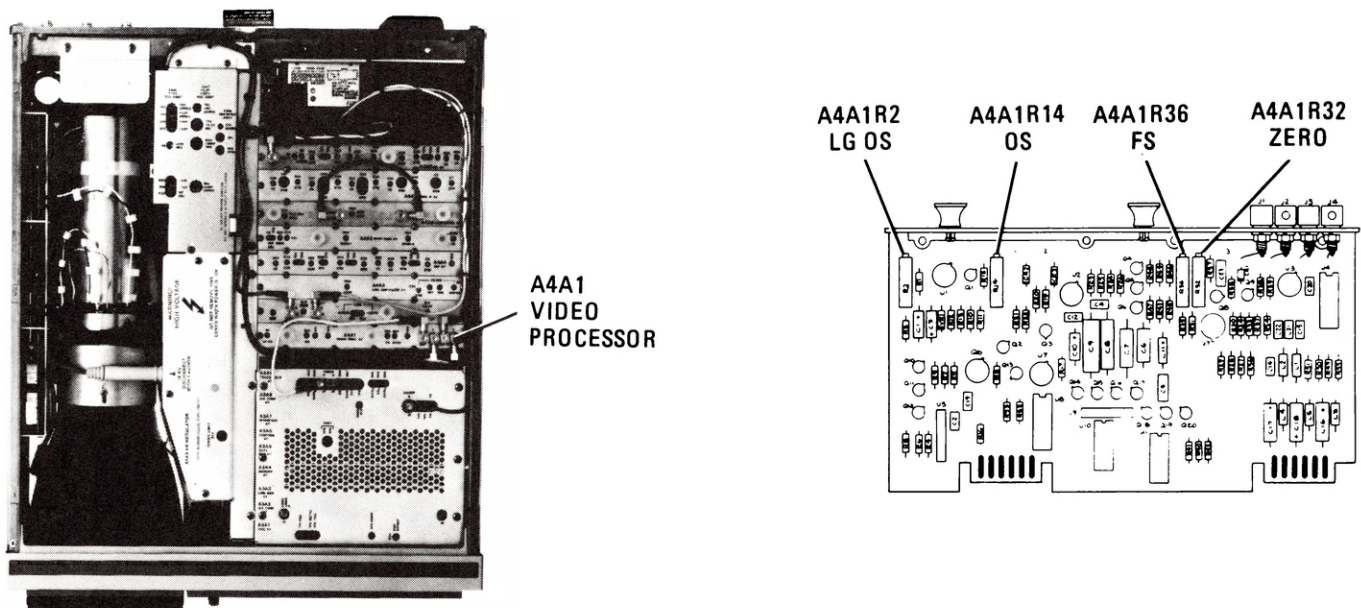

Figure 5-22. Location of Video Processor Adjustments
8. Adjust A4A1R14 OS for DVM indication of -5.000 ± 0.003 Vdc. Refer to Figure 5-22 for location of adjustment.
13. Adjust A4A1R36 FS for DVM indication of $+2.000 \pm 0.001$ Vdc. Refer to Figure 5-22 for location of adjustment.
15. Adjust A4A1R32 ZERO for DVM indication of 0.000 ± 0.001 Vdc. Refer to Figure 5-22 for location of adjustment.
22. Adjust A4A1R2 LG OS for DVM indication of $+0.100 \pm 0.001$ Vdc greater than the DVM indication recorded in Step 20. Refer to Figure 5-22 for location of adjustment.